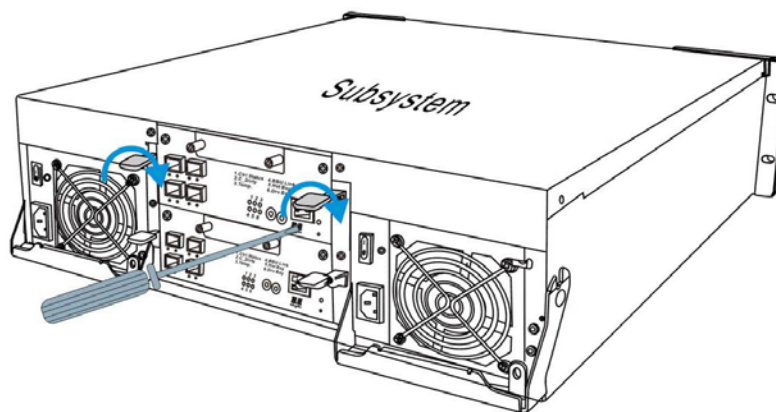

Figure 5-5: Securing Retention Screws
**Step 4.** *Secure the controller module to the chassis.* Fasten the two (2) screws previously removed through the screw holes underneath the ejection levers. (See *Figure 5-5*)